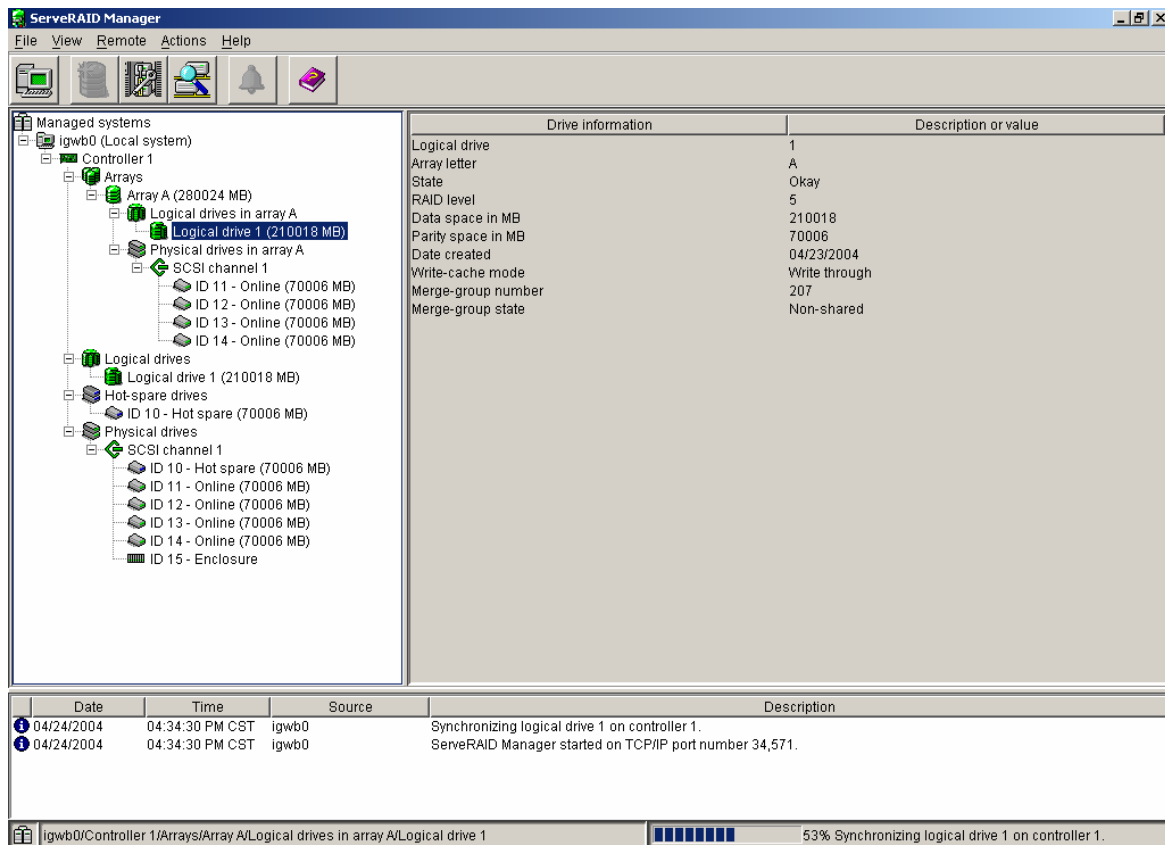

Figure 2-7 Interface with successful RAID5 configuration
- 1) The following are the criteria, for Figure 2-7, for judging that logical drives and RAID5 mode are configured and all devices are operating well:
- After all nodes are expanded, the hierarchical structure of the nodes and the number of the nodes are consistent with the display in the left pane as shown in Figure 2-7. For example, one 210018 MB logical drive is created. Six physical drives are available, among which four are in the online state, one is in the hot spare state, and one is in the enclosure state.